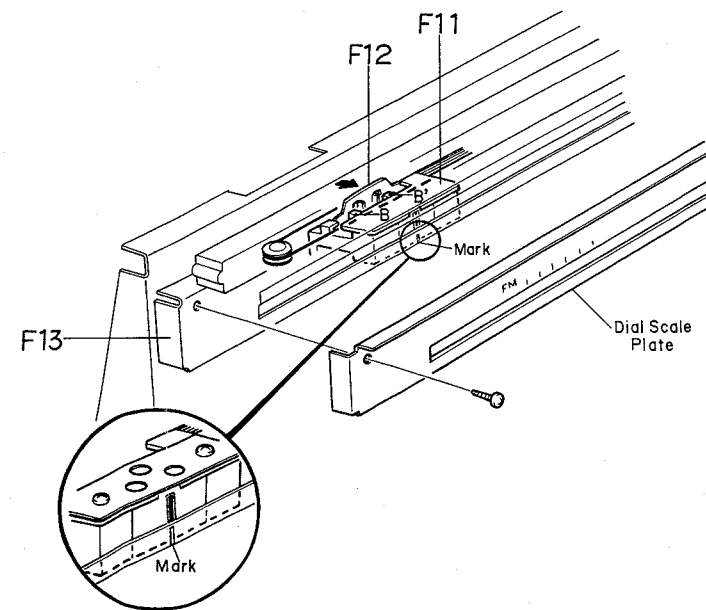
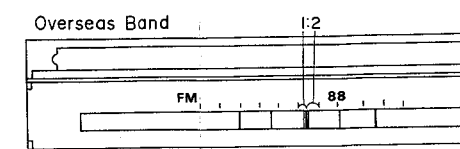
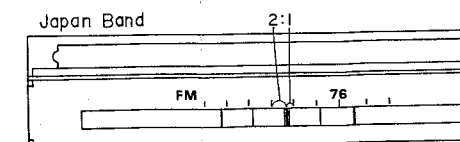

Fig. 5.2.1
Fig. 5.2.3
Fig. 5.2.4
(2) Referring to Fig. 5.2.1., bring F11 (Lamp Base Ass'y) to the left end and move F12 (Wire Stopper) backward with pliers.
1) With mounting a Dial Scale Plate Position F11 (Lamp Base Ass'y) in Fig. 5.2.1. so that the center of the pointer corresponds to the illustrated position on the scale as shown in Fig. 5.2.3.
2) Without mounting a Dial Scale Plate Referring to Fig. 5.2.1., position F11 so that the center of the pointer corresponds to the mark on F13 (Scale Holder).
1) With mounting a Dial Scale Plate Position F11 in Fig. 5.2.1. so that the center of the pointer corresponds to the illustrated position on the scale as shown in Fig. 5.2.4.
2) Without mounting a Dial Scale Plate Referring to Fig. 5.2.1., position F11 so that the center of the pointer corresponds to 2.5 mm away in the left from the mark on F13.
(5) Return F12 (Wire Stopper) in Fig. 5.2.1. to the original position by pushing it forward with pliers to fix the thread.